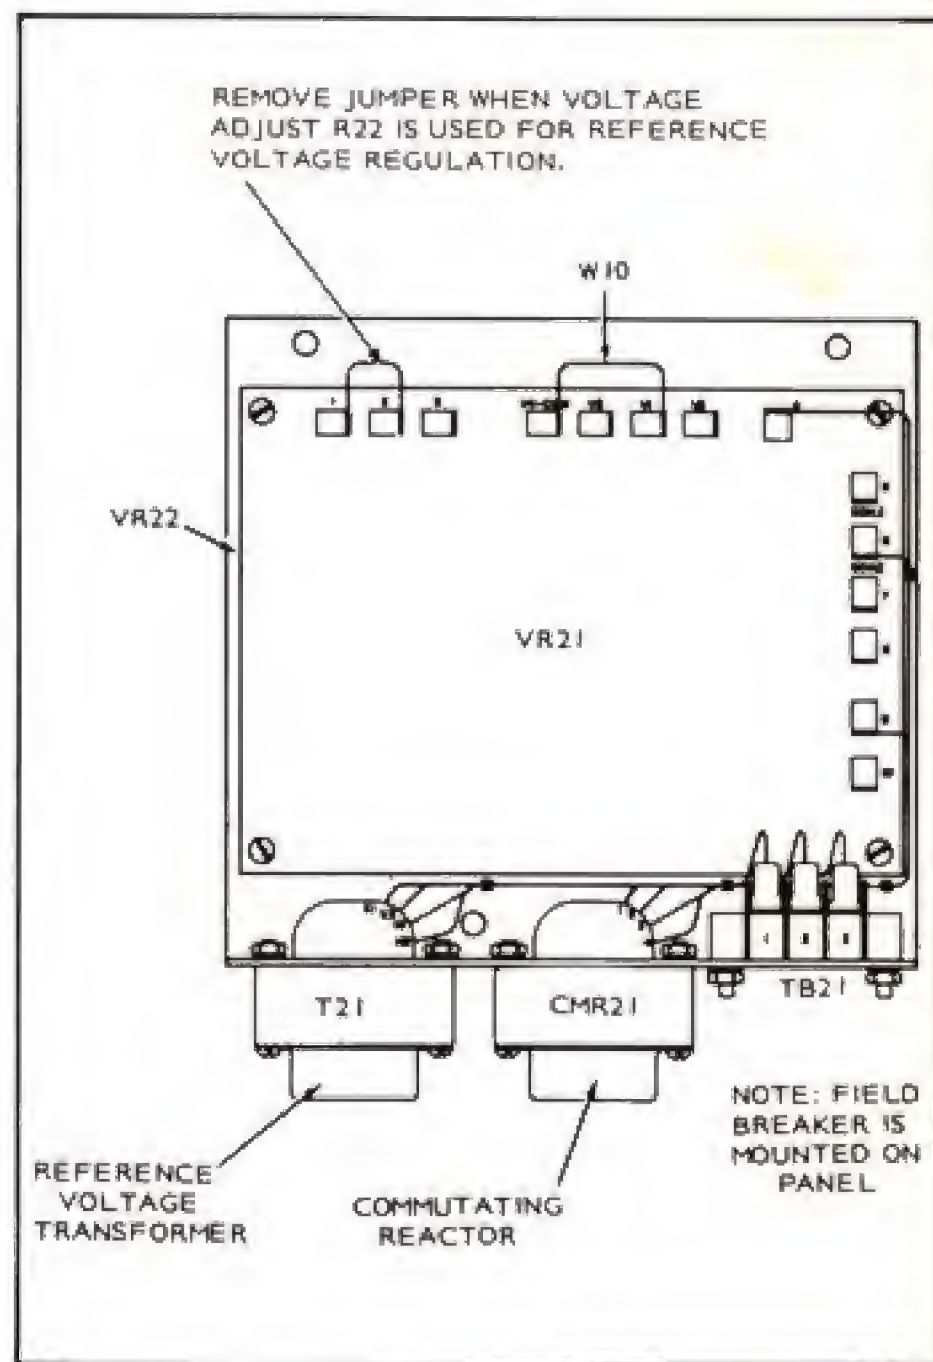

FIGURE 4-32. PC BOARD MOUNTING
3. Remove four screws at corners (Figure 4-32).